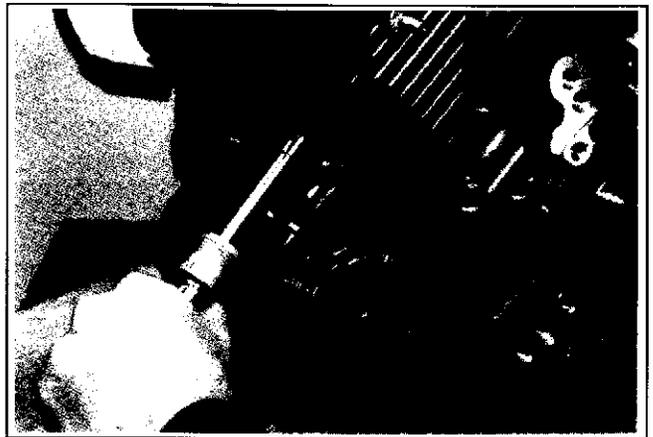

Figure 9-14. Removing #1 Side Baffle.
3. Remove the side baffle from the #1 cylinder. See Figure 9-14.